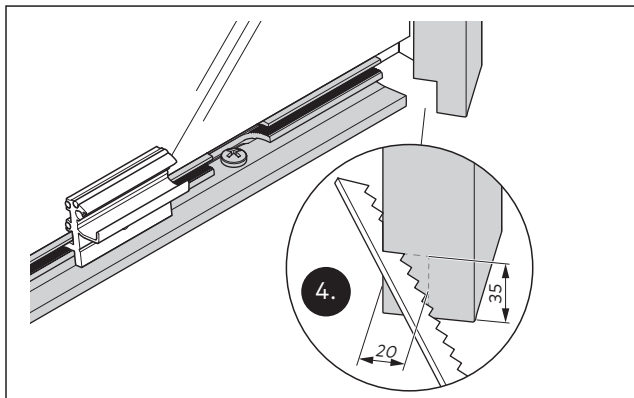

Abb. 9 Cut out a recess for the cable bushing on the door frame and mounting profile, e.g. on the vertical cover profile of the mounting profile.
4. Cut out the recesses on the cover profiles as required, e.g. for joint mounting (Abb. 9).